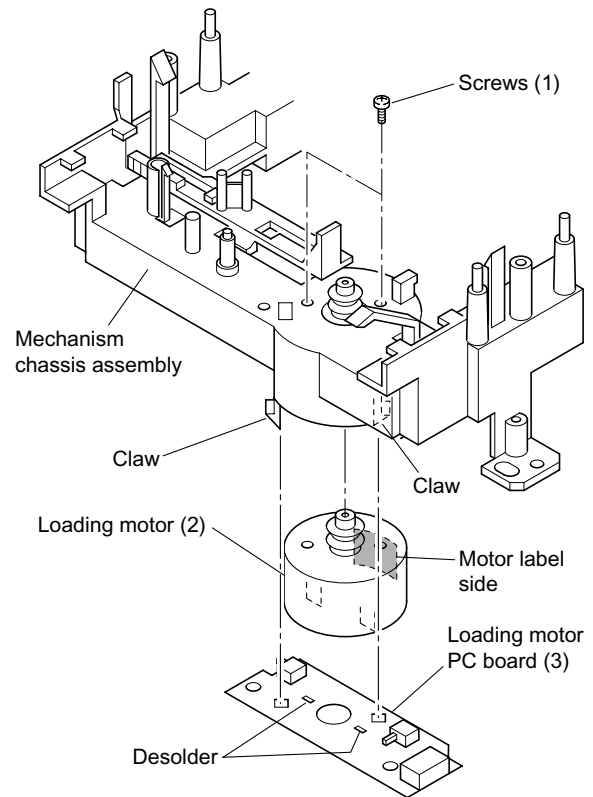

Fig. 2-1-16
- When replacing the loading motor, meet the polarity phase of the terminals. (Mount the motor with the label positioned as shown in Fig. 2-1-16.)